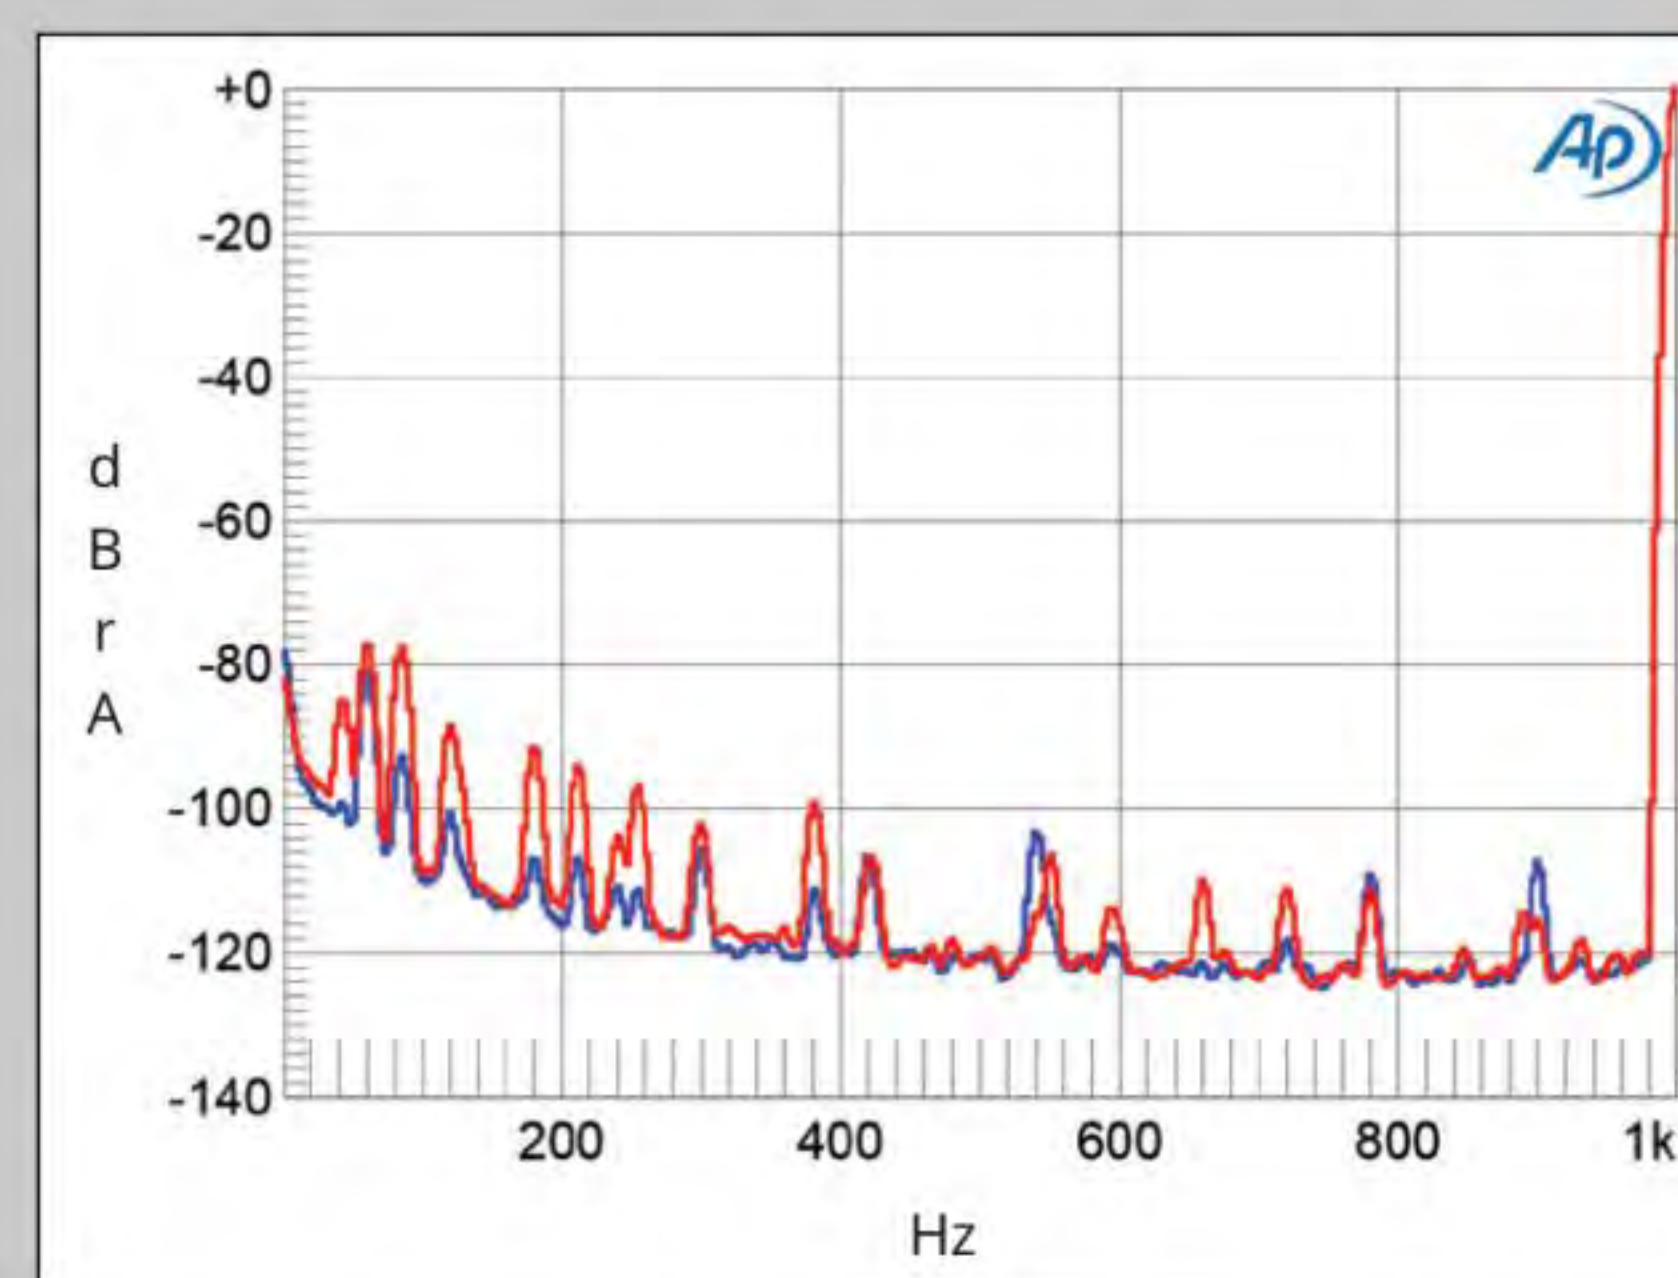

Fig.2 Pass Labs XP-27, gain “53,” spectrum, DC–1kHz, of output ref. 5mV input (left channel blue, right red, linear frequency scale, 20dB/vertical div.).
highest gain setting, at 64.2dB/56.7dB, left/right, unweighted, 65dB/57dB when restricted to the audioband, and 81.7dB/77dB when A-weighted. Spectral analysis of the XP-27's low-frequency noise floor with the gain set to "53" and ref. 1kHz at 5mV (fig.2) revealed that the lower ratios in the right channel were due to higher levels of AC supply-related and other spurious in that channel (red trace) than in the left (blue trace). Even so, the XP-27 is a quiet preamplifier.